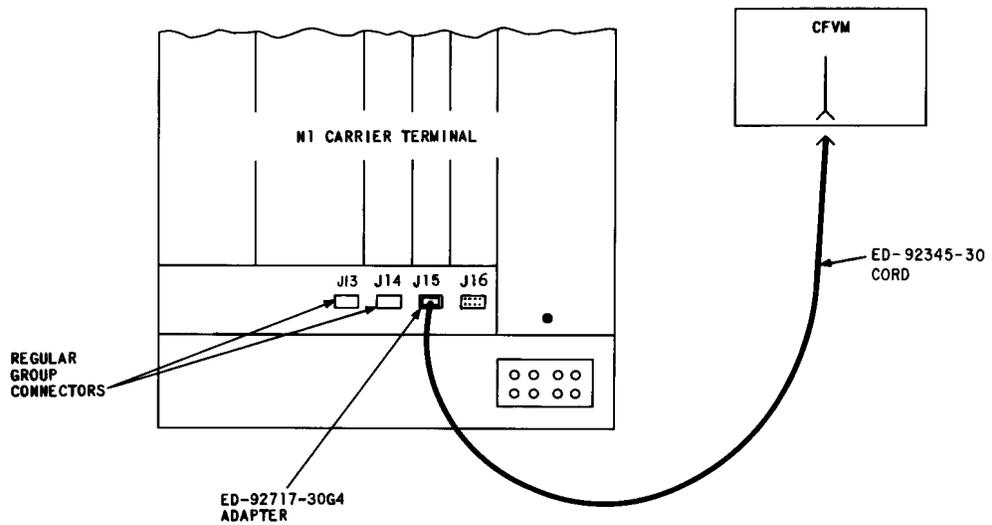

Fig. 2—Test Arrangement—Terminated Measurements at Group Transmitting Unit Output
- 6 Using the W20D cord, connect the CFVM to the ED-92717-30, G4 adapter. See Fig. 2 for the test arrangement.